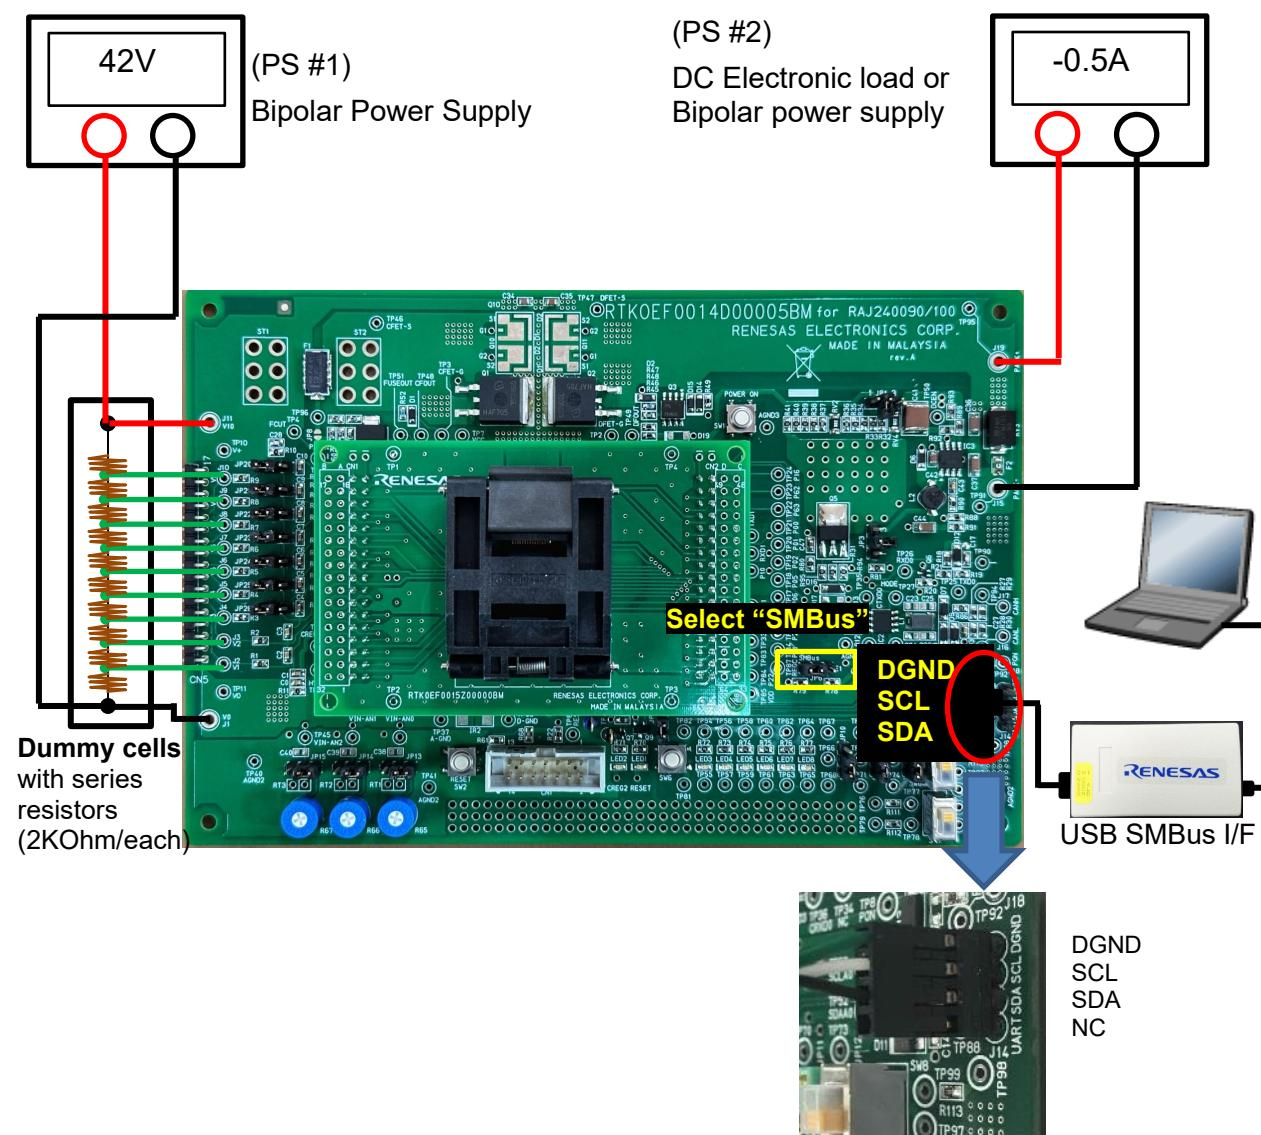

Figure 7 RAJ240090 / RAJ240100 EVM connection by dummy cells
Figure 7 shows the example of EVM connection. In this example, the board is configured for 10 series cells by dummy cell with bipolar power supply.
3.2.1 Battery simulator (PS#1 in Figure 7)
3.2.2 Load or charger simulator (PS#2 in Figure 7)
1. Connect all equipment as shown in Figure 7 (Section 3.2).